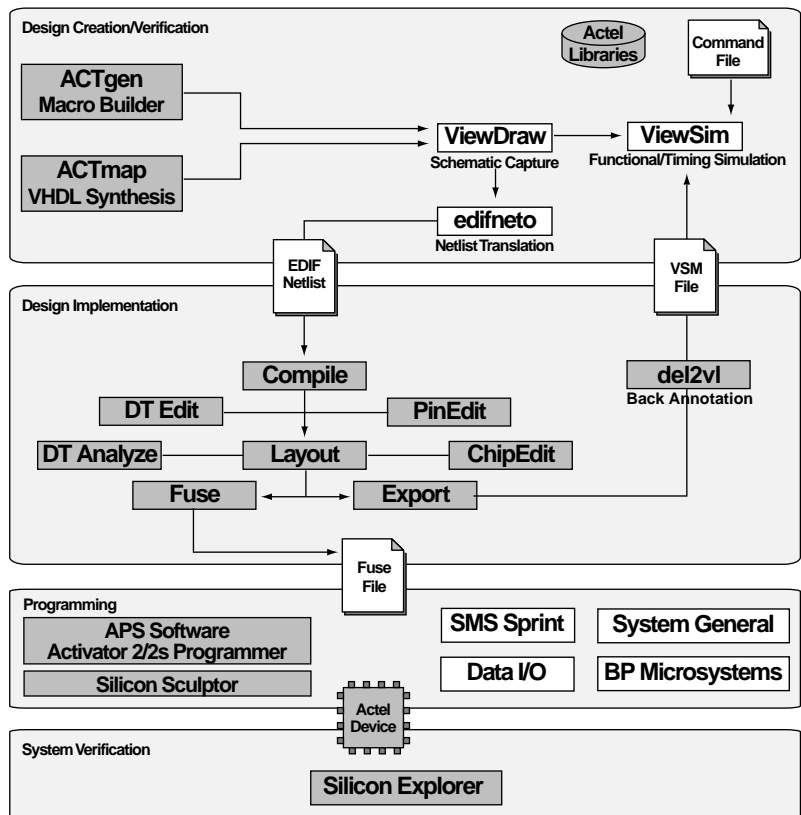

Figure 2-1. Actel-Viewlogic Schematic-Based Design Flow
Figure 2-1 shows the schematic-based design flow for creating an Actel device using the Powerview and Designer Series software¹.
1. Actel-specific utilities/tools are denoted by the grey boxes in Figure 2-1.